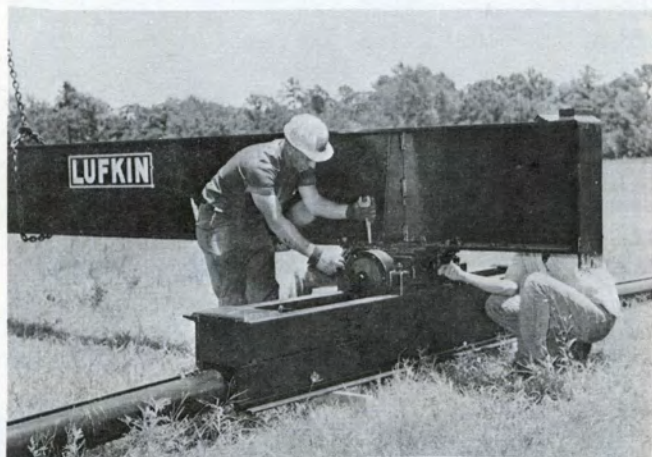

Figure 16
12. Figure 16 - Assemble Walking Beam and Cross Yoke.